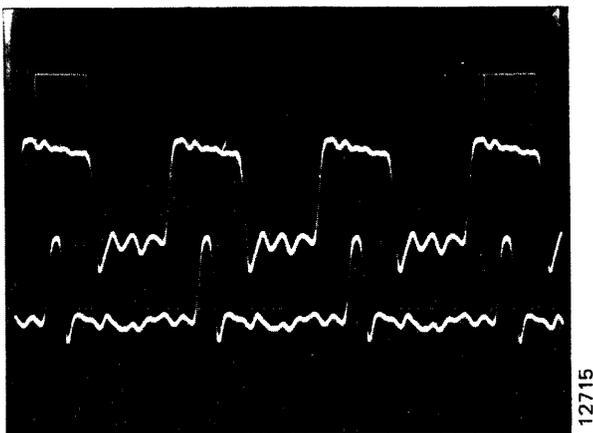

Figure 4-4. Skew One-Shot Display Waveform
10. Set the START/STOP switch to START. The heads should load normally, and a display like Figure 4-4 should be seen on the scope.